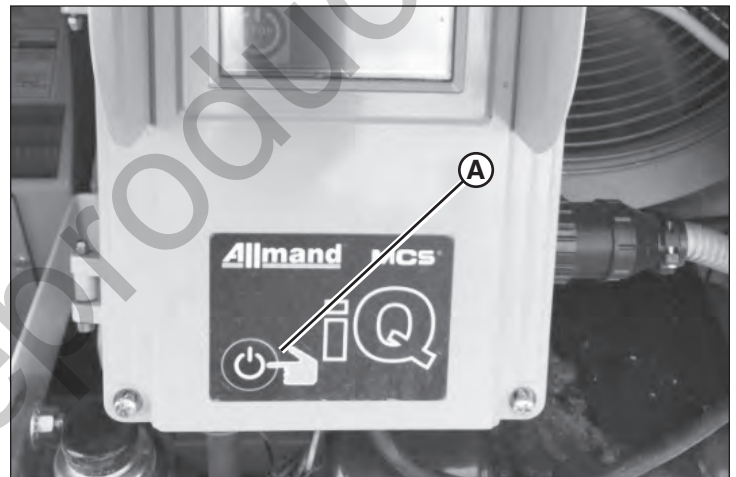

Figure 24
6. Press and hold START / STOP on the control module (A, Figure 24).